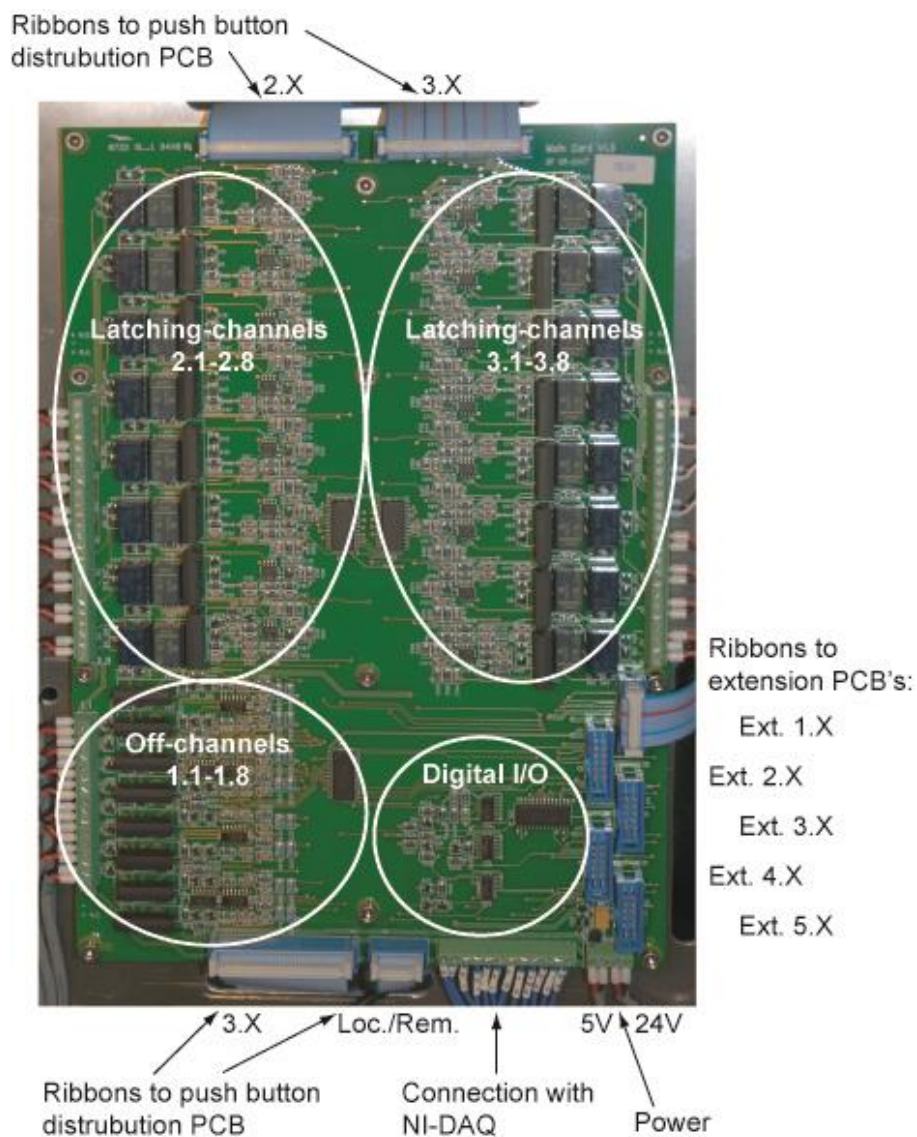

Figure 9. Main circuit board.
2.3. The Control Unit (CU)
The Control Unit (CU) is a separate cabinet and contains all the electronics to control and read the status of the GHS (see Figure 8). The CU is preferably placed close to the cryostat. All switching (valves, pumps, compressors etc) is done through a central (expandable) relay board (see Figure 10 and Attachment 7.4). On the main circuit board the relay control channels are arranged in three groups of eight channels each. Except the circuitry for these channels, this board also contains the digital I/O circuitry (see Figure 9). The main board can be expanded with extension circuit boards, each containing eight control channels (see Figure 10). In principle it is possible to control up to 64 channels. A standard BF-XLD-series system has one main board plus one extension card, for a total of 32 channels.